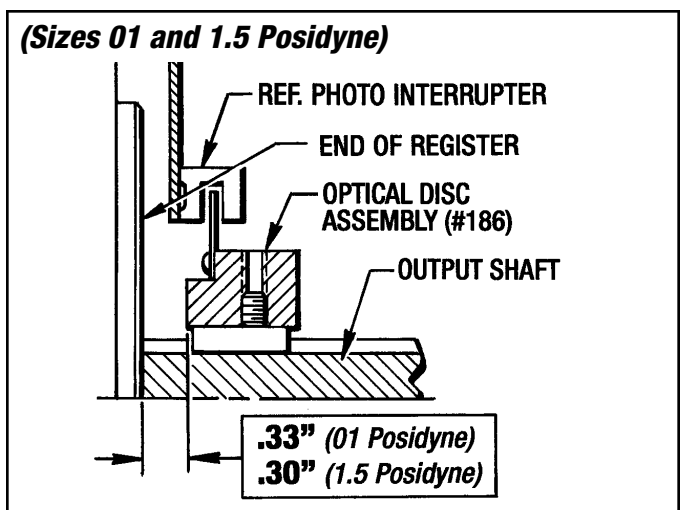

Figure 6.2 - Optical Disc and Hub Positioning (Sizes 01 AND 1.5 Posidyne)
2. Slide the Optical Disc Assembly (#186) onto the output shaft and position as shown in Figures 6.2. The positioning of this Optical Disc Assembly must be accurate.
- Attach the Disc Housing (#17) to the output end of the Posidyne with the (4) Screws (#76).
- On sizes 01, 1.5 and 02 there will also be (4) Lockwashers (#257).
- On sizes 10, 11 and 20 there will also be (4) Lockwashers (#32).
- Carefully insert the Circuit Board (#355) into the top of the Disc Housing making sure the (3) Photo Interrupters straddle the Optical Disc. (See prior Figures 6.2, 6.3, 6.4, 6.5, 6.6, 6.7 and 6.8)